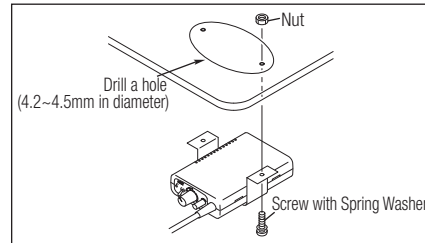

Fig. 6
2. Make two 4.2~4.5 mm holes in the mounting surface. Insert the screw with Spring Washer (Option) in the hole from the holder side and secure it with the nut. (Option) (Fig. 6)